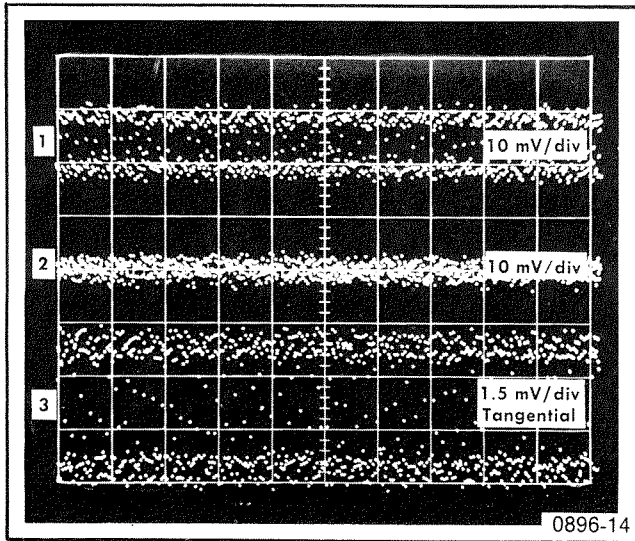

Fig. 4-7. Triple exposure of Tangential noise measurement.
d. Refer to Fig. 4-7 for displays of the following noise measurement procedure.
(1) Obtain a display of two traces.
(2) Adjust the variable attenuator until the two traces blend together just to the point at which they appear as one trace.
(3) Change the Type 284 Amplitude switch to 1.0 V, 10 times the signal amplitude. The display now has tangential deflection factor of 1.5 mV/div.
The 5 mV tangential display noise limit includes 3.33 graticule divisions (3) of Fig. 4-7. Check that the bottom edges of the two traces are not more than 3.33 divisions apart. Waveform (3) measures as 3.6 mV tangential noise.
The noise displays of Fig. 4-7 have a noise deflection factor based upon the signal amplitude, the sampling unit Units/Div setting, the fact that the final trace separation is twice the RMS noise, and that the tangential noise is 3 times the RMS noise. The square wave signal amplitude that makes two traces appear as one sets the trace separation to twice the RMS noise. The procedure used here then permits a noise deflection factor to be determined by dividing the input mV/div deflection factor by 2 (trace separation is 2 times the RMS noise), multiplying by 3 (tangential noise is 3 times the RMS noise) and then dividing by 10 (the signal amplitude change factor).